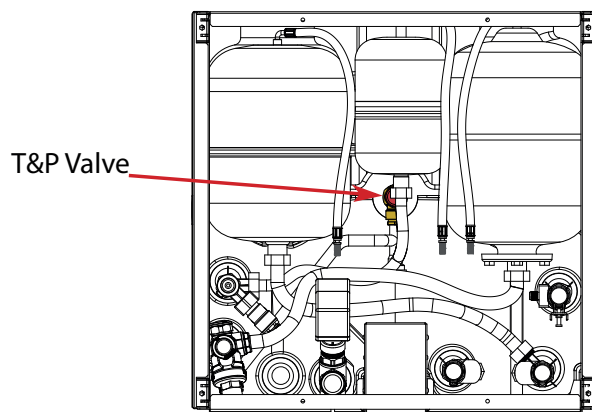

Fig. 26 : T&P Valve
6. The T&P valve, see Fig. 26, can also be held open to allow air to enter when draining the cylinder.